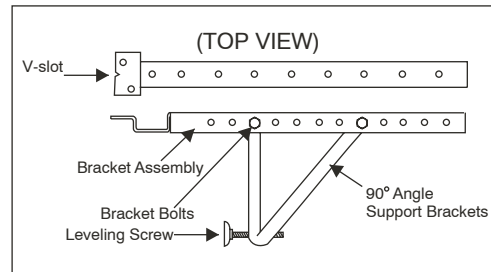
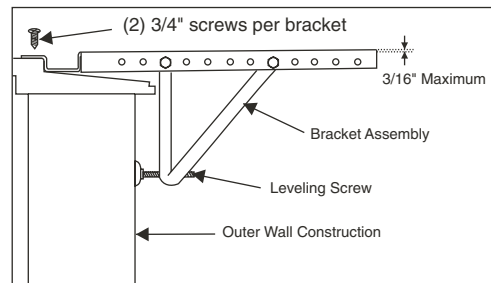
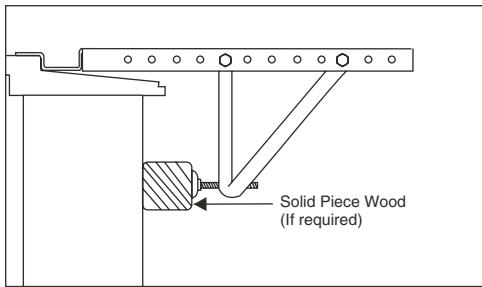

Fig. 10 – Bracket Assembly
Fig. 12 – Depth/Angle Illustration
Fig. 13 – Solid Piece of Wood Placement
- A. Attach the bracket assembly to 90 angle support brackets (Fig. 10) using (2) 1 1/2" bolts, two bolts per bracket. Secure with the (2) 1/4" lock washers and (2) 1/4" nuts. DO NOT immediately tighten these bolts as it may be necessary to adjust the depth of the bracket assembly, depending on the depth of your window sill. See (Fig. 12). Install the two leveling screws into the 90 support brackets. Test the bracket assembly in the window before cabinet installation. If the leveling screws are distanced too far away from the wall to provide stability, it may be necessary for you to fill this area with a solid piece of wood. See (Fig. 13).
- C. For proper condensation run-off it will be necessary to adjust the angle/pitch of the window brackets. This is accomplished by adjusting the distance of the leveling screw on the outer wall. The maximum angle/pitch should not exceed more than 3/16". See (Fig.12).
Use a solid piece of wood to provide stability. This will be required when sills are extra deep (see Fig. 13).
- C. Check to make sure that the cabinet is slanted slightly downward on the outside. If necessary, re-adjust support bracket as shown in (Fig. 12).
- B. Reinstall the slide-out-chassis security screws (removed earlier) on both sides of the cabinet (see Fig. 12). Secure the top of the frames to the window sash with (2) 3/4" screws.
- C. Now, secure bottom frame of shutters using one shutter clamp and one 3/4" screw on each side (see Fig. 12).